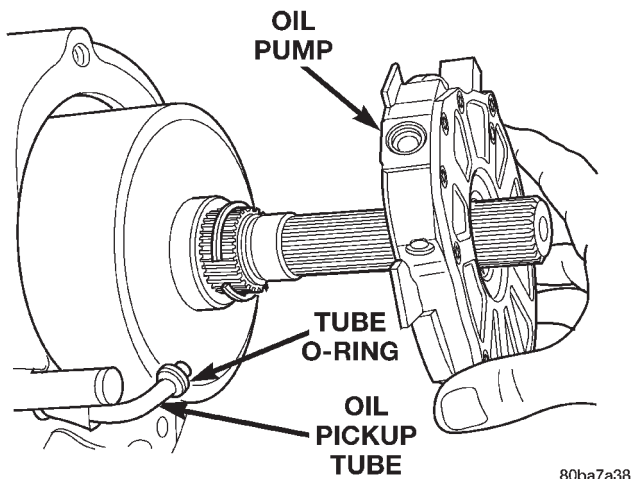

Fig. 72 Installing Oil Pump
- (1) Install new O-ring on flanged end of oil pickup tube.
- (2) Install oil pump (Fig. 72).